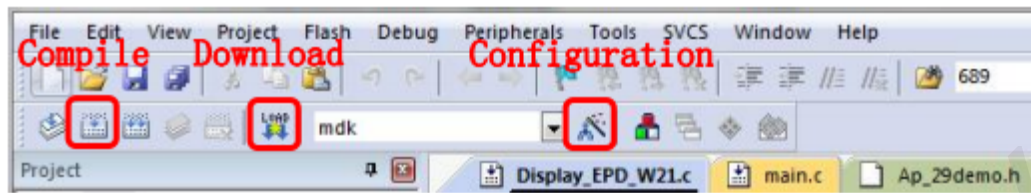
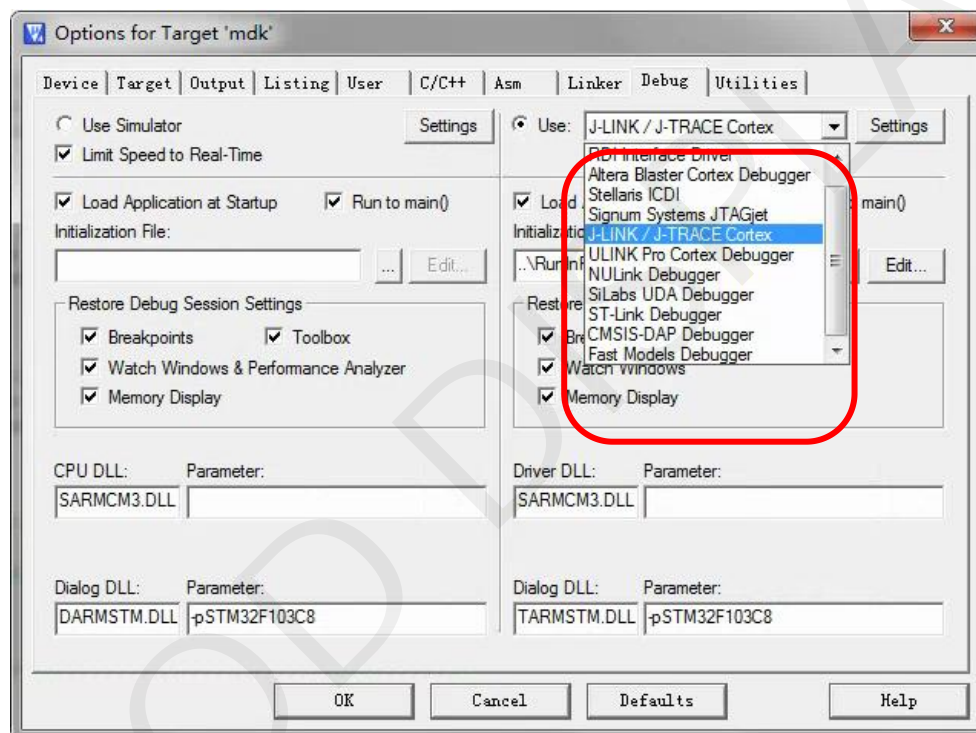

Figure 13 :Keil4 tool bar
Figure 14: Choose the simulator model
3) The Keil4 toolbar is shown in Figure 13. Please click  at the first time using the simulator and a box like Figure 14 will pop up. Choose the simulator model of yours in the "Debug" bar, and click "OK" to confirm.
5)Click  in the toolbar in Figure 13 to compile.
6)Click  in the toolbar in Figure 13 to download.
- 9) If you want to change a image, you need to use Keil4 to change the image data (Figure 15), compile it (Figure 13) to generate a new mdk.hex file, and then re-select the file to download it.